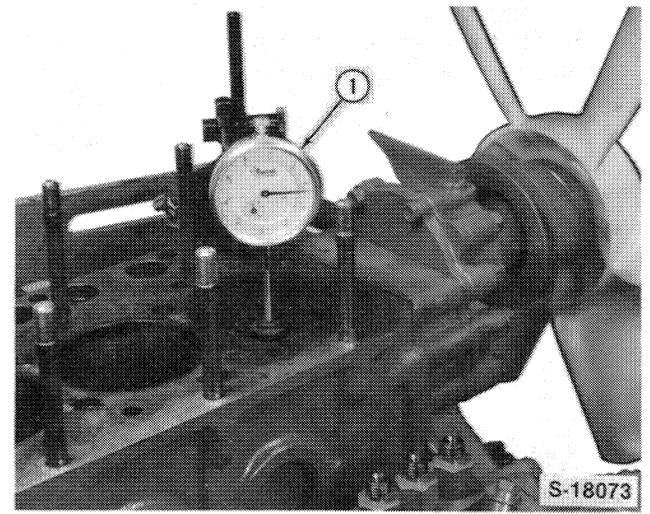

Figure 31
1. Position each of the pistons at top dead center and using a dial indicator, determine the distance each piston projects above the face of the block, Figure 31.